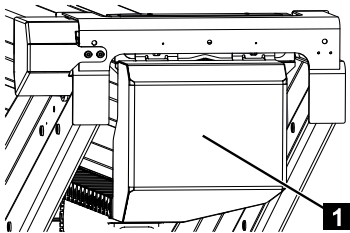

Fig. 258
10. Remove the cover (Fig.258/1) from the profile.